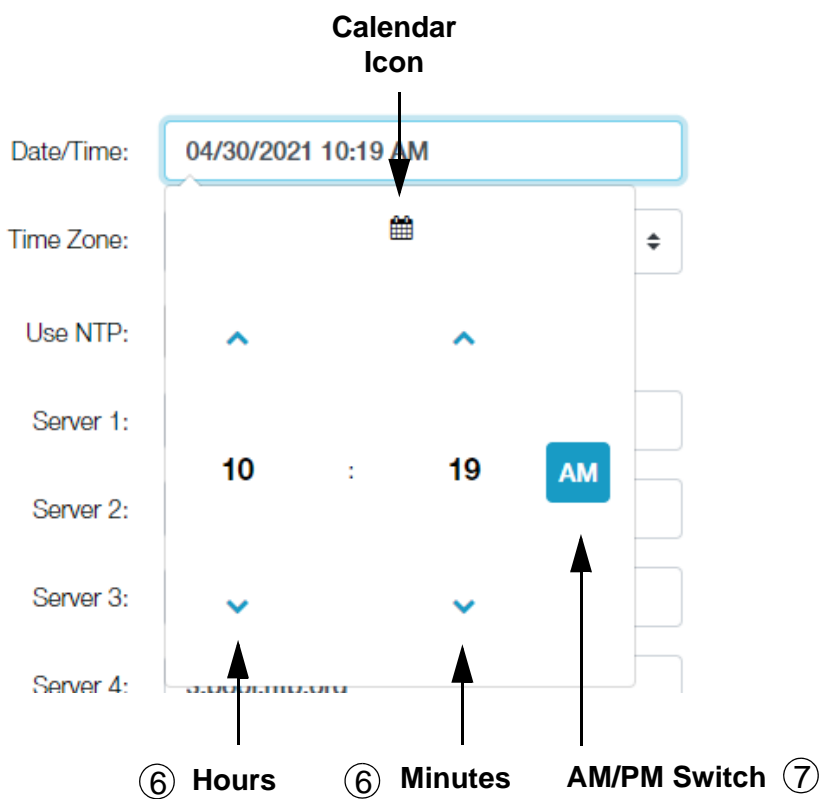

Figure 26. Time
5. Click the **Clock** icon in the calendar to display the time. Refer to Figure 26 on page 66.